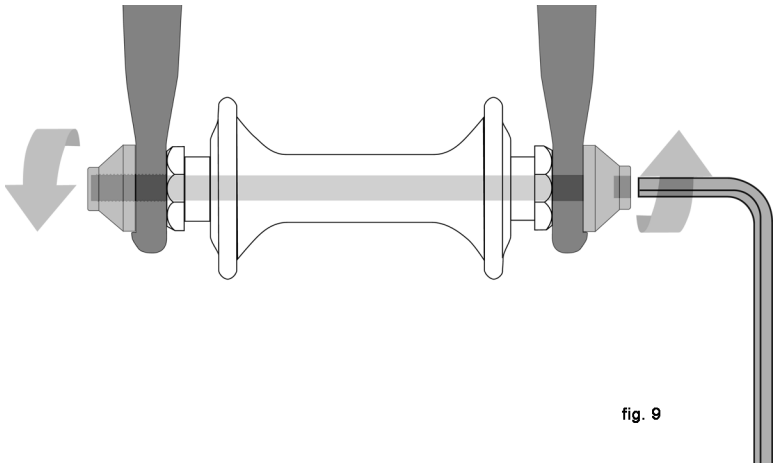

fig. 9
- A hollow axle with a shaft (“skewer”) running through it which has a nut on one end and a fitting for a hex key, lock lever or other tightening device on the other (through bolt, fig. 9)